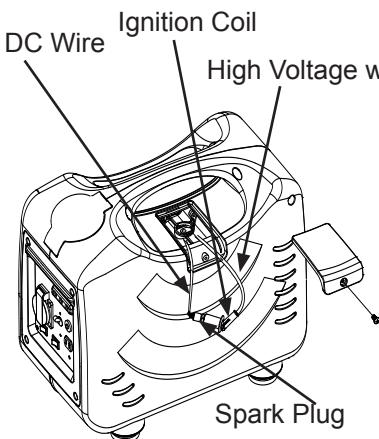
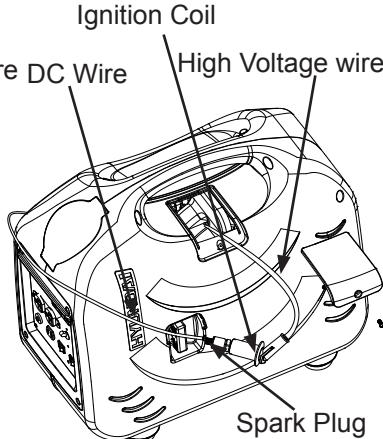

Fig. 5.11
Fig. 5.12
4. Use a wrench to remove the spark plug (Refer to Fig. 5.9 and Fig. 5.11 for HY1000Si, Fig. 5.10 and Fig. 5.12 for HY2000Si)